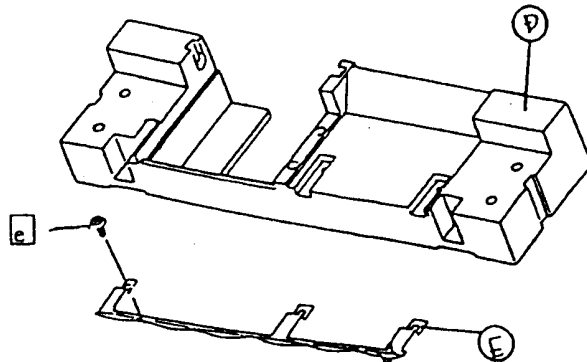

Figure 4-4. Platen Paper Guide Removal
- Turn the Upper Frame Assembly, down and remove the three screws, ④. Remove the Stamp Paper Guide Assembly D, from the Upper Frame Assembly C.
- Remove the left-side screw, ③, on the Platen Paper Guide, E. This screw connects the Platen Paper Guide Assembly E, -to Stamp Paper Guide Assembly, D. See Figure 4-4, below.
- Position the Platen Paper Guide Assembly, E, on the Stamp Paper Guide Assembly, D, and replace the screw - ③ (see Figure 4-4, above).